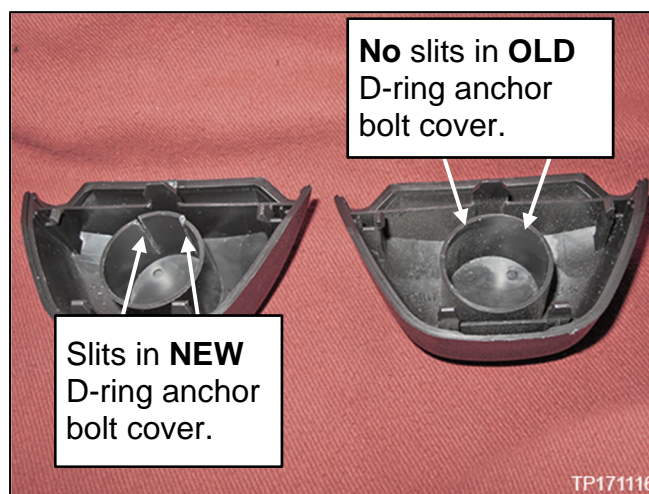

Figure 17
**NOTE:** Refer to Figure 17 to verify NEW style D-ring anchor bolt cover is being used.